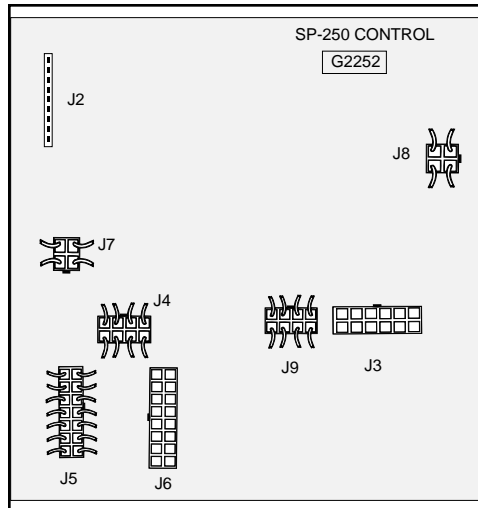

FIGURE F.2A - Remove Plugs J3 and J6 to Perform Static SCR Rectifier Assembly Test.
2. Disconnect Plugs J3 and J6 from the G2252 Control Board or remove Plug J3 from the G1992 Control Board (Code 9402 only.) This electrically isolates the SCR bridge assembly. See Figures F.2A and F.2B.